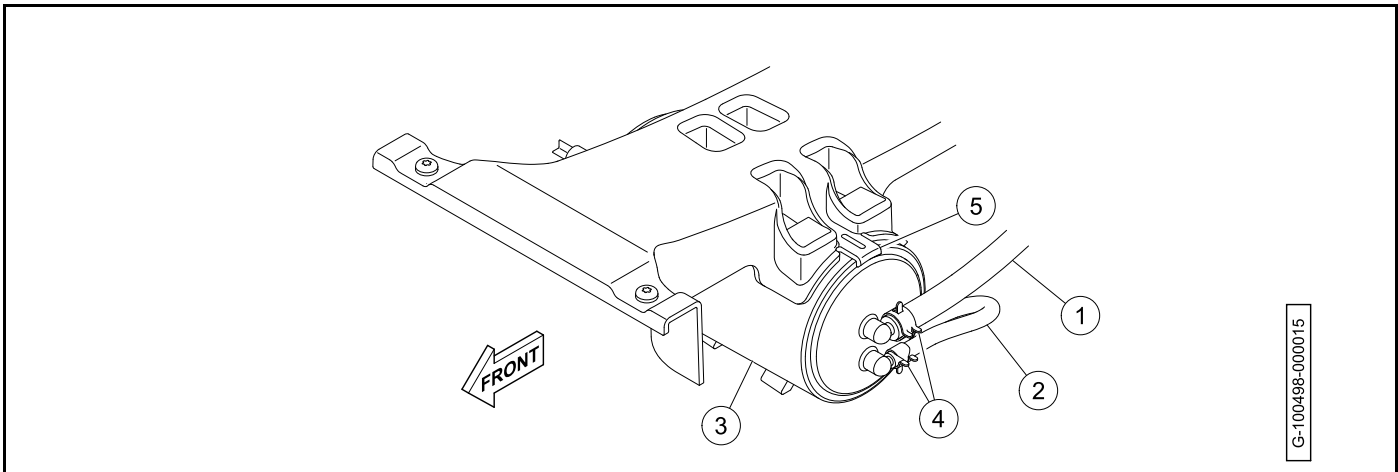

Figure 21-11
1. Install the carbon canister (3) on the bucket brace. Make sure that the tab (5) is secured (**Figure 21-11**).
2. Connect the vent line (1).
3. Connect the purge line (2).
4. Install the clamps (4).